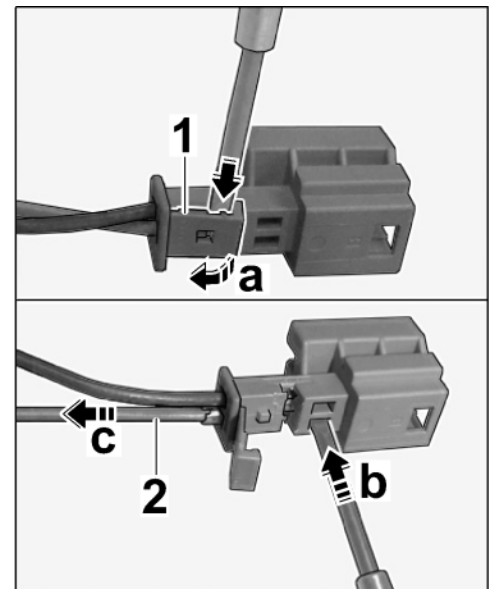

Figure 5
2.2.1 Insert a screwdriver in between the secondary lock and pin connector socket (⇒ *Figure 5 -oben, Pfeil-*) and open the secondary lock (⇒ *Figure 5 -a-*).
2.2.2 Release pin contact using press-out tool (⇒ *Figure 5 -b-*) and pull out YE/GY line (⇒ *Figure 5 -c-*).